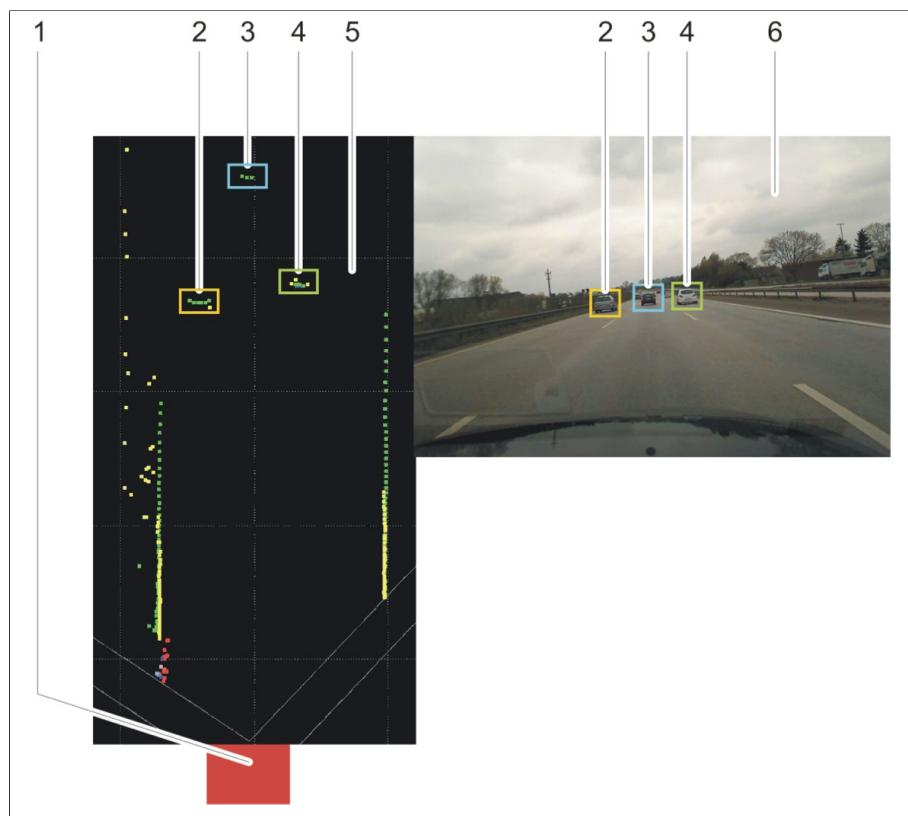

Figure 4.1: Scan data and video image
Description of items in figure 4.1:
Figure 4.1 shows a picture with excerpts from scan data (5) taken while driving on the highway. The scan points are displayed as colored dots. In the video image (6), which shall only serve for illustration, and in the scan data image, three vehicles (2, 3 and 4) each are marked with rectangles in different colors to make them easier to assign. In the scan data image, the roadside border lines left and right are clearly visible. In this illustration, the colors of the points match the respective scan level.